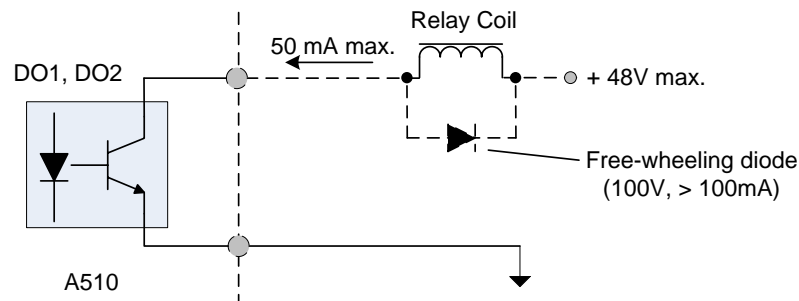

Fig. 3.17.2 Photo-Coupler Connected to an External Relay
- (4) When the digital multi-function output terminals (DO1, DO2) are connected to an external relay, a freewheeling diode should be connected across the relay coil to prevent an inductive voltage spike from damaging the output circuitry as shown in Fig. 3.17.2 below.